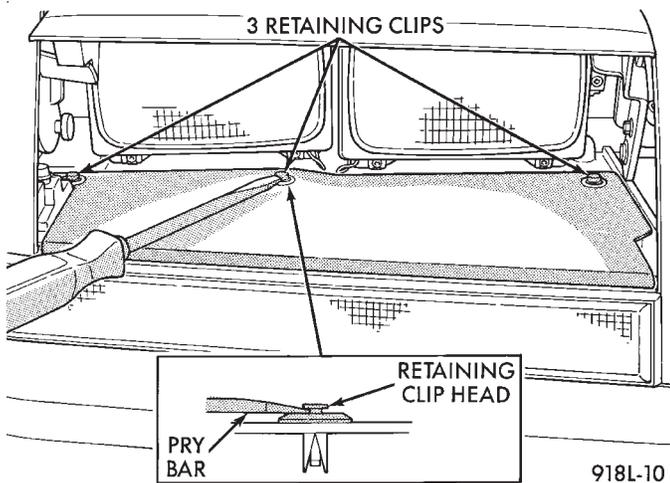

Fig. 4 Turn Signal Lamp Shield
- (2) Remove push-in fasteners holding lower park and turn signal lamp shield to grille opening panel (Fig. 4).